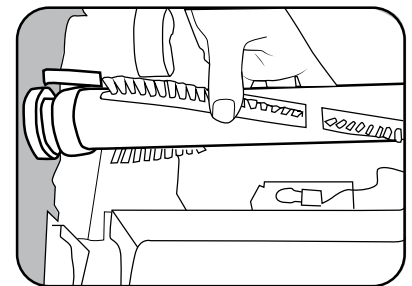

Fig. 3
2. Remove the belt guard (Fig. 2). Remove the brushroll by pulling it straight out (Fig. 3).